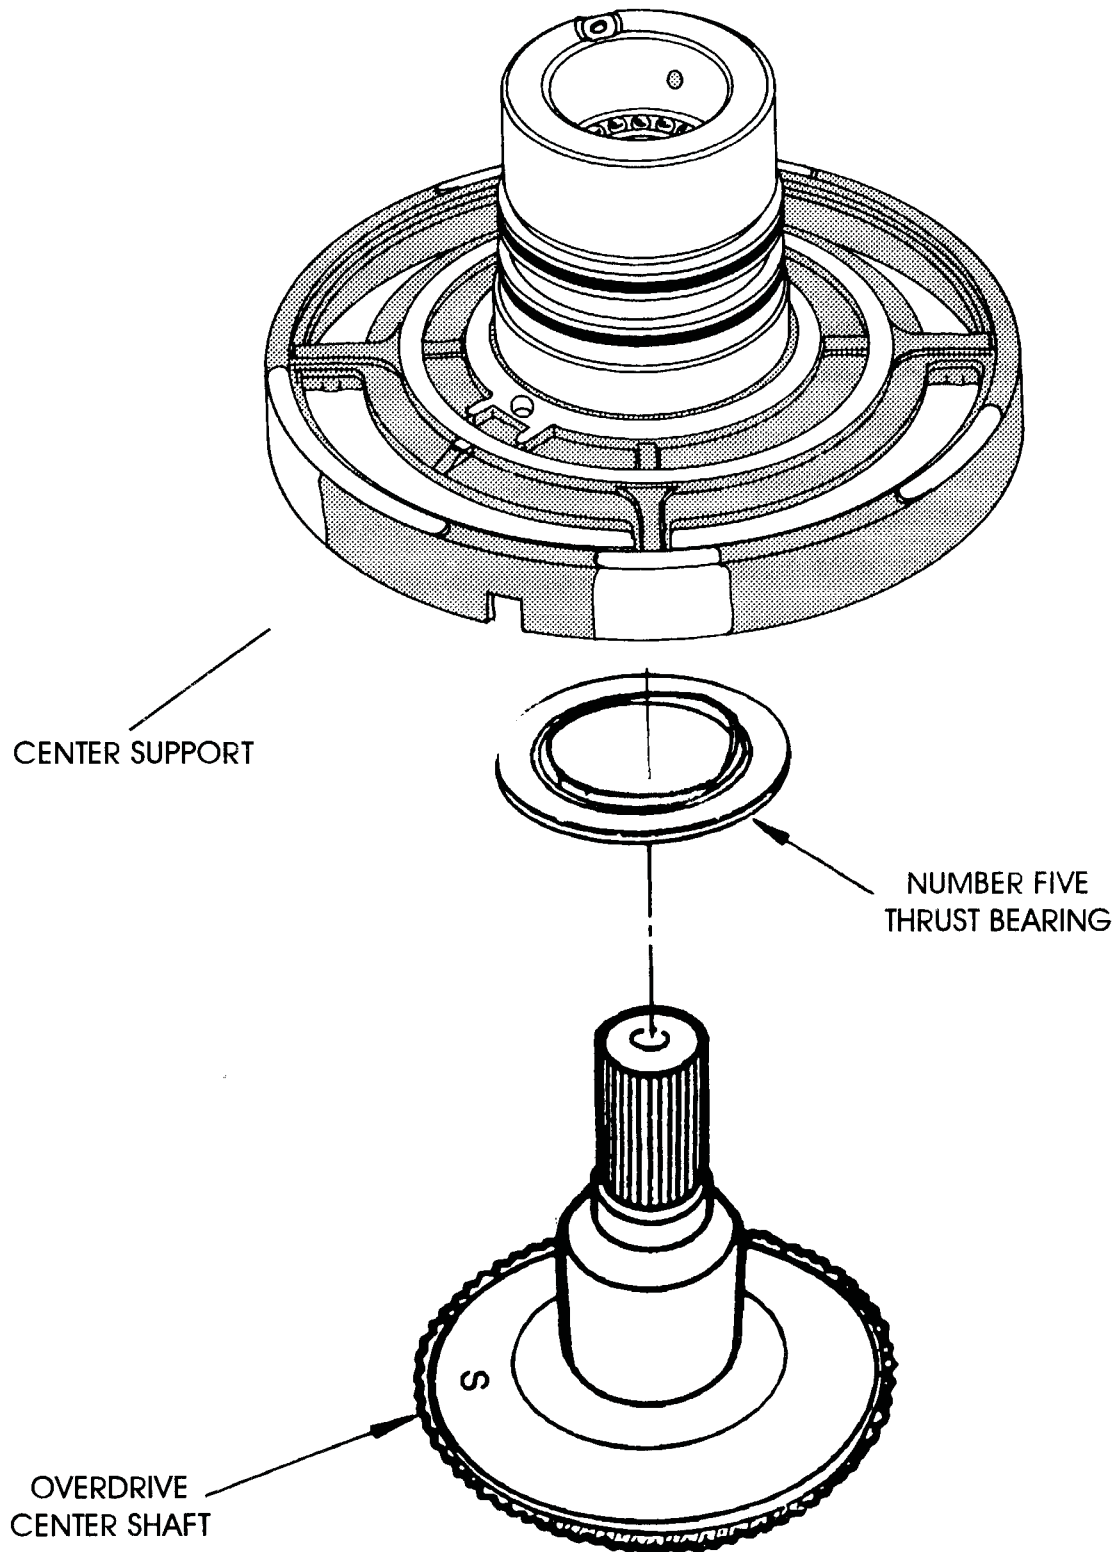

Figure 47
- (4) NO. 5 NEEDLE BEARING - Make certain the No. 5 Needle Bearing included in the service kit is installed with the service kit *regardless* of whether your unit had one or did not have one. Some 1994 model year transmissions were built with some or all of the parts that "Resemble" the parts in this service kit, and may or may not have a No. 5 needle bearing. Make certain that the No. 5 needle bearing from the service kit is installed. Refer to Figure 47 for proper installation of the needle bearing.